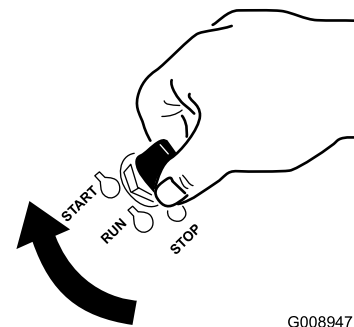

Figure 18
1. Turn the ignition key to the Start position (Figure 18). When the engine starts, release the key.
6. Turn the ignition key to the Start position (Figure 18). When the engine starts, release the key.